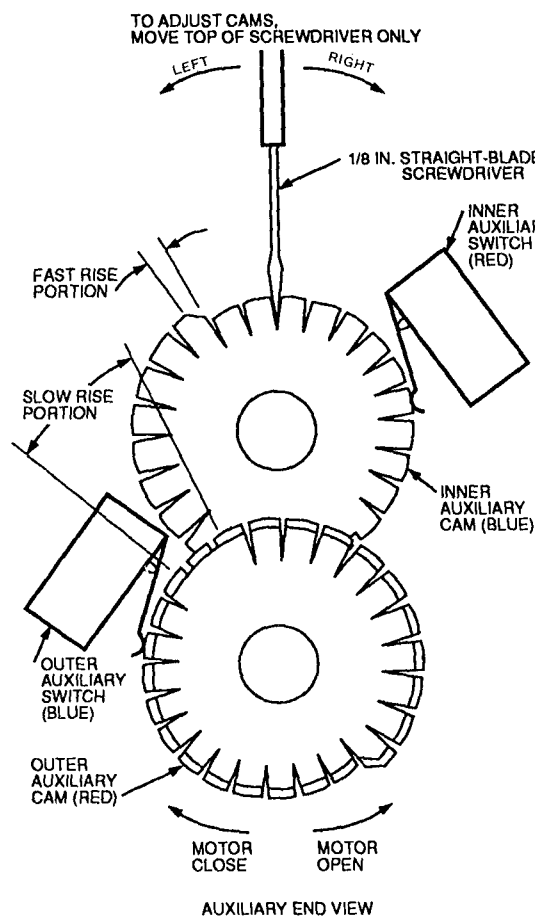

Fig. 30 — Auxiliary Switch Adjustment
4. Adjust auxiliary cam by inserting a 1/8-in. straight blade screwdriver into slot on cam and moving TOP of screwdriver to the right or left. See Fig. 30.